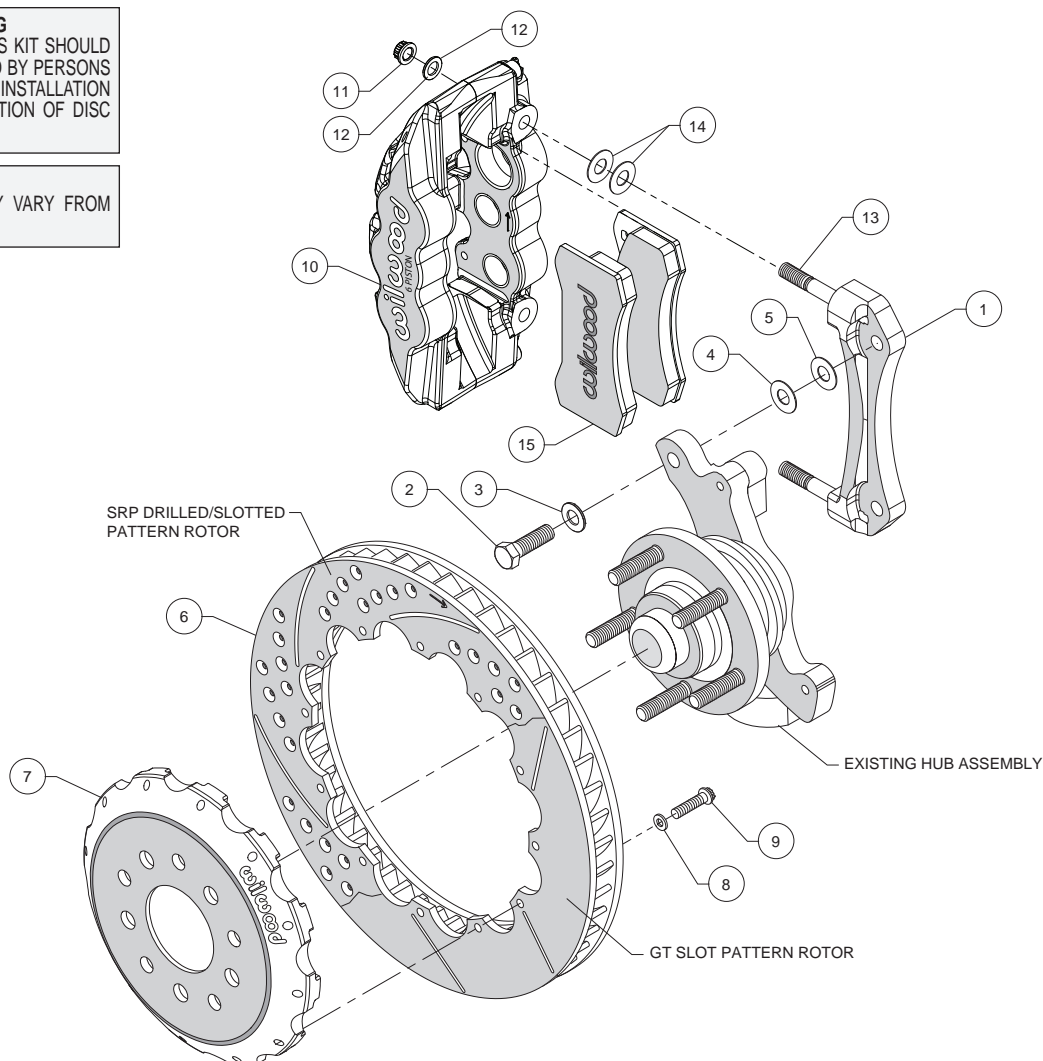
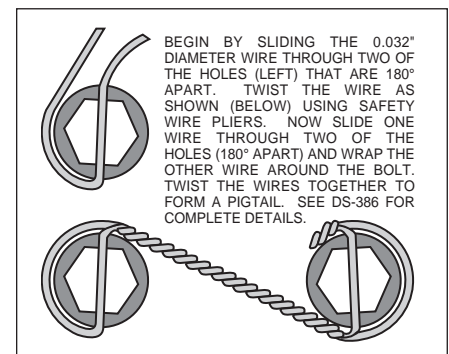

Figure 1. Typical Installation Configuration
Figure 4. Safety Wire Diagram
- The caliper mount bracket assembly (1) should be installed first with clean, dry threads on the mounting bolts. Install the bracket on the inboard side of the spindle by sliding bolt (2) through flat washer (3), and spindle ear from the outboard side of the spindle. Place two shim washers (5) between the bracket (1) and the spindle (see figure 1). The bracket must tighten squarely against the inboard side of the modified caliper mount bosses on the spindle body. Inspect for interference from casting irregularities, machining ridges, burrs, etc. Later, after the caliper, pad, and rotor alignment has been checked, and any necessary shims have been put in place, the mount bolts should be coated with red *Loctite*® 271 and torqued to 60 ft-lbs.
- With the larger I.D. side of the rotor (6) facing away from the hat (7), bolt the rotor (6) to the hat (7) through the backside of the rotor using washers (8) and bolts (9) provided in the configuration pictured in figure 1. Using an alternating sequence, apply red *Loctite*® 271 to the threads and torque bolts to 155 in-lb. For an added measure of security, the bolts may be safety wired using standard 0.032 inch diameter stainless steel safety wire as shown in Figure 4. Please refer to Wilwood's data sheet DS-386 (available at www.wilwood.com/Pdf/DataSheets/ds386.pdf) for complete safety wire installation instructions.
- Lubricate caliper mounting studs (13) and nuts (11) with lightweight oil. Install two shims (14) over each stud (13) on the radial mount bracket. Slide the caliper (10) in place over the studs and rotors and install the washer (12) and lock nut (11) to hold the caliper in place. The caliper bleed screws should be pointing up. Snug the lock nuts (11) and check that the rotor (6) is centered in the caliper (10). Add or subtract shims (4 and/or 5) as necessary between the mounting bracket (1) and the spindle to center the caliper (10).
- Remove the two pad retaining pins from the caliper (10) by carefully popping out the pin retaining clips and sliding out the pins. Insert the brake pads (15) into the caliper from the bottom, Figure 1. With the friction material facing the rotor, secure the brake pads in place with the pad retaining pins and clips. Reinstall the caliper onto the caliper mounting bracket and temporarily tighten the lock nuts. Check that the top of the brake pad is flush with the outside diameter of the rotor. If not, adjust by adding or subtracting shims (14) between the caliper and the bracket.
- Once all clearances have been checked, remove the wheel, caliper, hat, and rotor from the spindle and hub. Secure the caliper mounting bracket (1) to the spindle using red *Loctite*® 271. Torque the bolts to 60 ft-lbs. Reinstall the hat and rotor assembly and again use three lug nuts to hold it in place. Reinstall the caliper, torque the caliper nuts (11) to 30 ft-lbs.